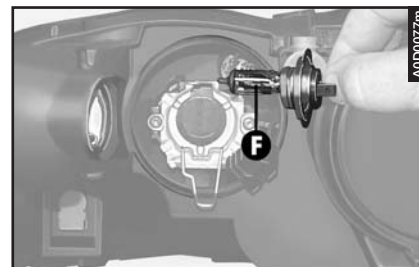

fig. 44
- Remove the bulb (**F- fig. 44**).